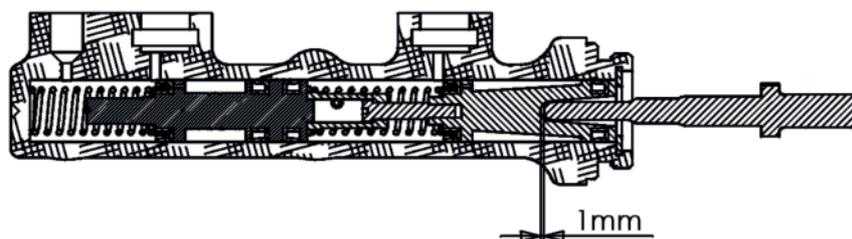

Fig. 3
- Check the Pushrod that goes into the master cylinder from the pedal. It should have a 1/16 inch (1mm) of play before you can feel the rod make contact with the plunger (see Fig.3).
- Das Spiel sollte 1 mm betragen. (Siehe Fig.3).